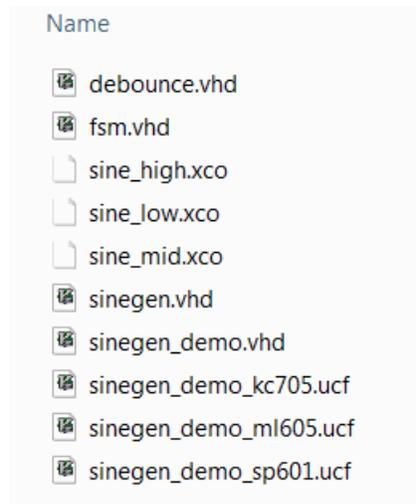

Figure 2: Tutorial Design File Set
4. When unzipped, look in ChipScope\_PlanAhead/src for the files and folder shown in Figure 2.